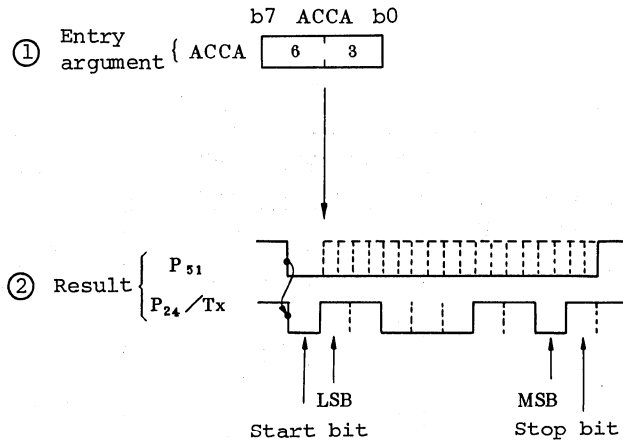

Figure 10-6. Example of SCIOUT Execution
b. Example of SCIOUT execution is shown in figure 10-6.
If entry argument is as shown in part ① of figure 10-6, data is sent to the console typewriter as shown in part ② of figure 10-6.